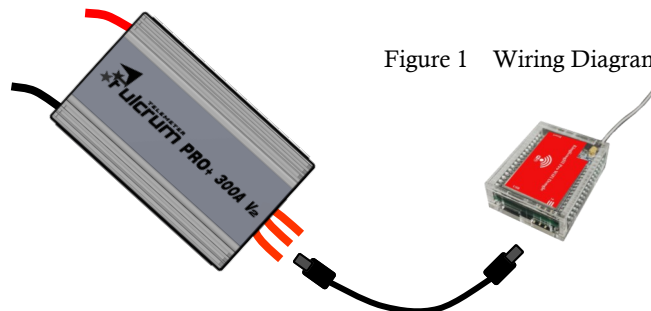

Figure 1 Wiring Diagram
- Connecting the cable to ESC and WiFi dongle (Figure 1)